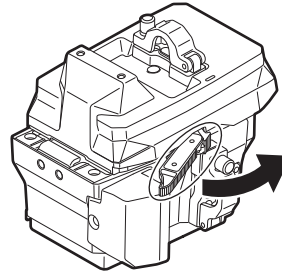

Fig. 2
- 1** While raising the lock knob (red) of the recording extension module release lever (Fig. 1), pull the recording extension module release lever. (Fig. 2)